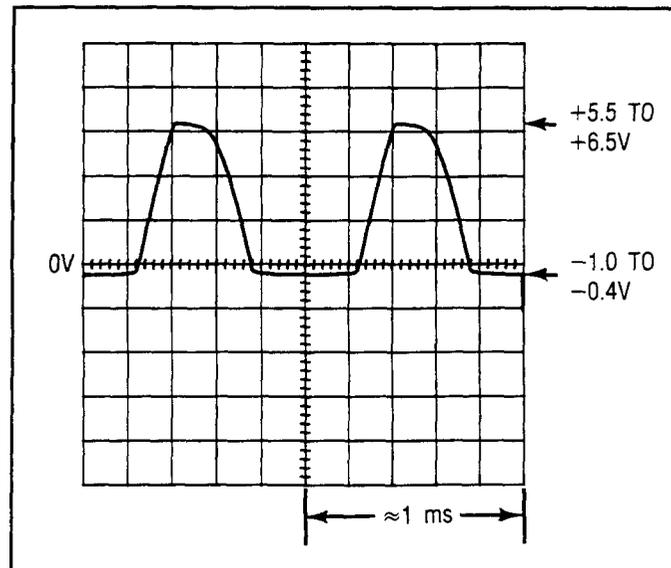

Figure 8C-4. Waveform at Pin 2 of U9, $\langle \checkmark 1 \rangle$ Step 3
3. Connect the oscilloscope to pin 2 of U9. The waveform should be as shown in Figure 8C-4.